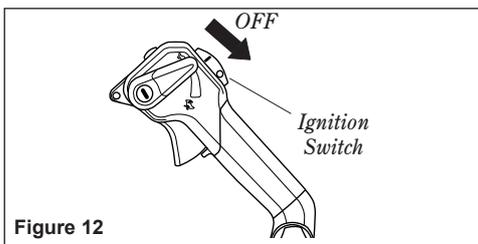

Figure 12
2. Push and hold the Stop Button down until the engine stops. Slide the ignition switch towards the rear to "O" (OFF). See Figure 12.